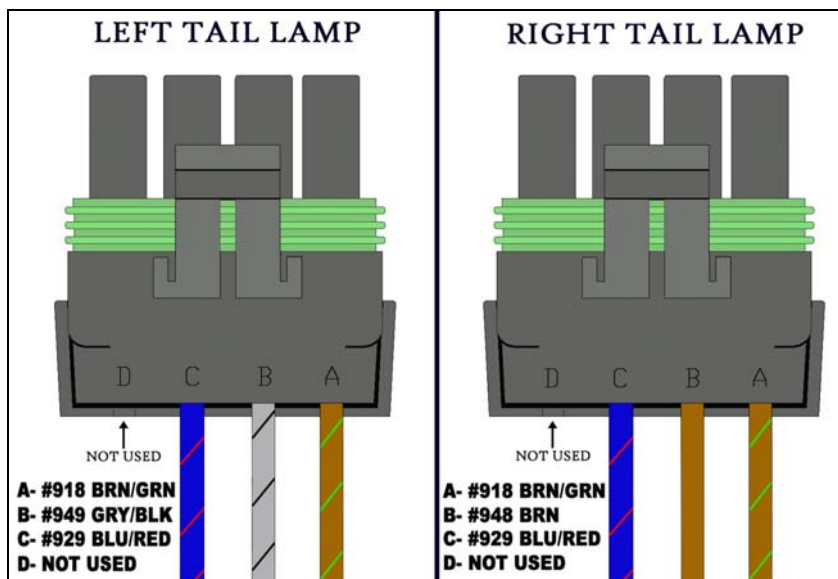

Figure 8.1.5 4 way Tail Lamp Connector
- 8.1.5 The 3 wires can now be re-pinned into the 4 pin connector from your original harness. See **Figure 8.1.5** for the pin outs